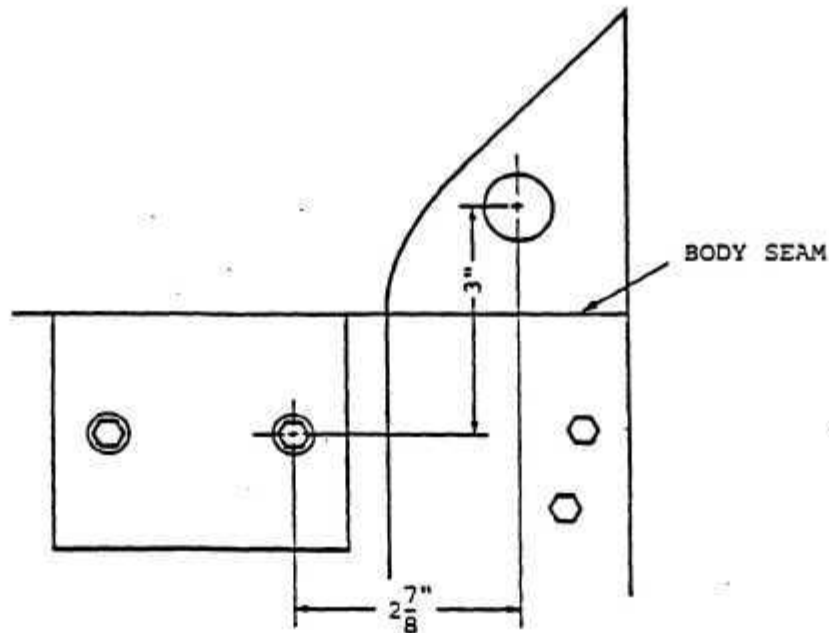

FIGURE 3
5. Working inside the vehicle and using a hole saw, drill a 1" hole in the triangular shaped recess area located above both the carpet and body seam of the right kick panel. (See figure 3).